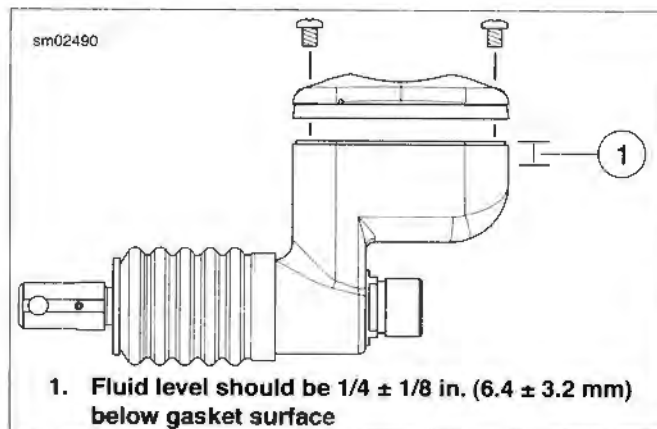

Figure 1-30. Rear Brake Master Cylinder Reservoir
1. See Figure 1-30. Check level in rear brake master cylinder reservoir. Level should be $1/4 \pm 1/8$ in. (6.35 ± 3.18 mm) below the gasket surface.